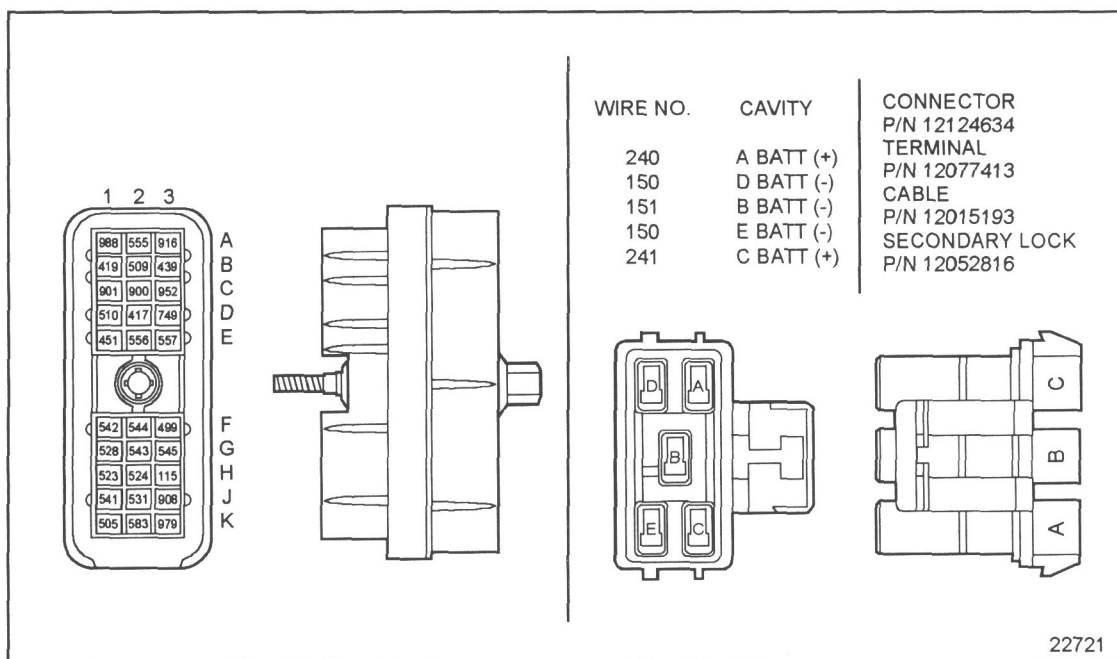

Figure 16-3 ECM Vehicle Interface Harness Connector
1. Inspect terminals at the vehicle harness connector (both the sensor and harness side) for bent, corroded and unseated pins or sockets. Check terminal and pin H3 at the ECM and all terminals and pins in the CLS connector. See Figure 16-3.